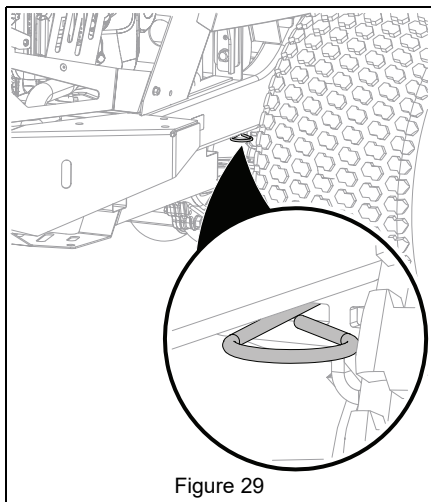

Figure 29
- Return transaxle bypass levers to operating position. See Figure 29.